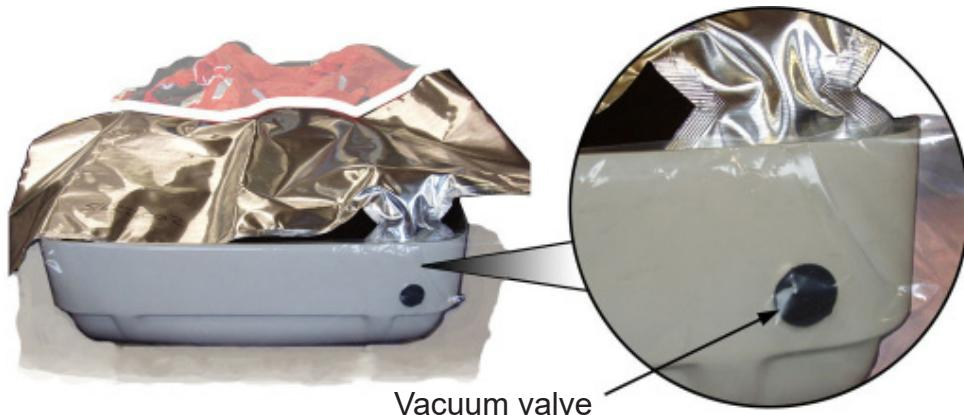

FIGURE A7-9
- 2.12 Push the vacuum valve into the pre-cut location on the container. Refer to FIGURE A7-9. Holding the back of the vacuum valve, attach the washer and nut on the outside of the container. Hand tighten the nut.